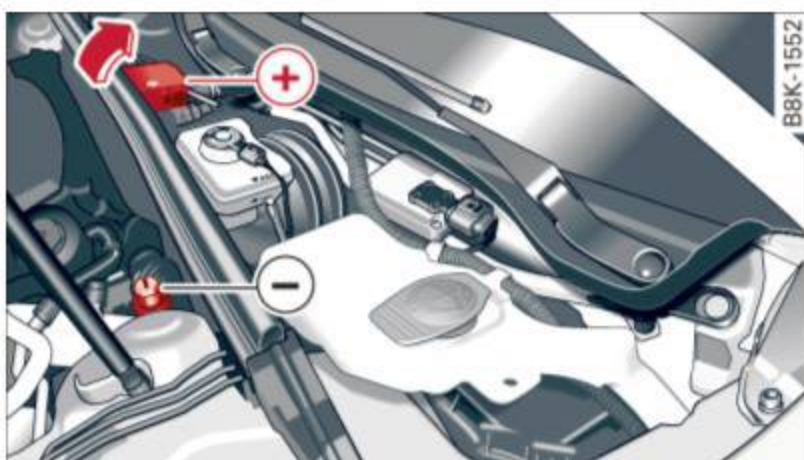

Fig. 187 Engine compartment: Connectors for jumper cables and charger
- ▶ Open the cover on the positive pole ⇒ *fig. 187*.